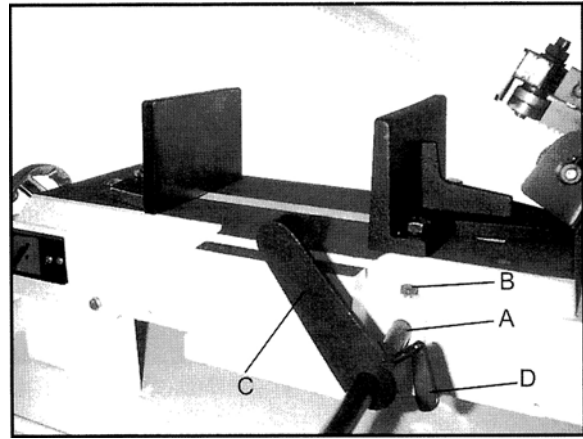

Figure 1
4. Slide material stop bar (A, Figure 1) into the base and secure by tightening bolt (B, Figure 1). Slide material stop (C, Figure 1) onto the bar and tighten bolt (D, Figure 1).